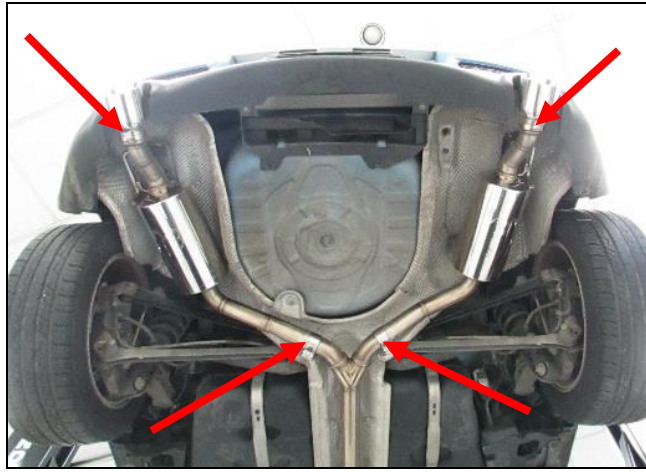

Figure 8
4. Install the supplied (x2) 2" band clamps. Install the right and left side Blackheart mufflers. Slide the hangers in the OE rubber isolaters (**Figure 8**).